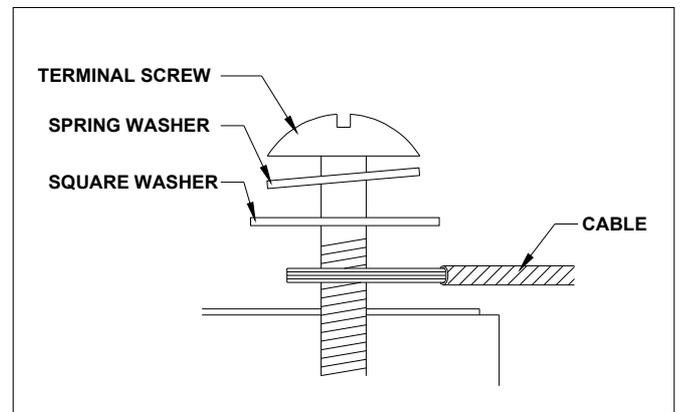

Figure 4. Ring or Spade Terminal Connectors
- C. The wire used to interconnect PV modules may be single or two conductors, from 2.08 mm2 up to 5.26 mm2 gauge stranded copper wire, in a "SUNLIGHT RESISTANT" and insulated for 90°C minimum jacket cable. This cable is suitable for applications where wiring is exposed to the direct rays of the sun. The maximum and minimum outer diameters of the cable that may be used with the cable connector are 8 mm and 6 mm respectively (Figure 4).